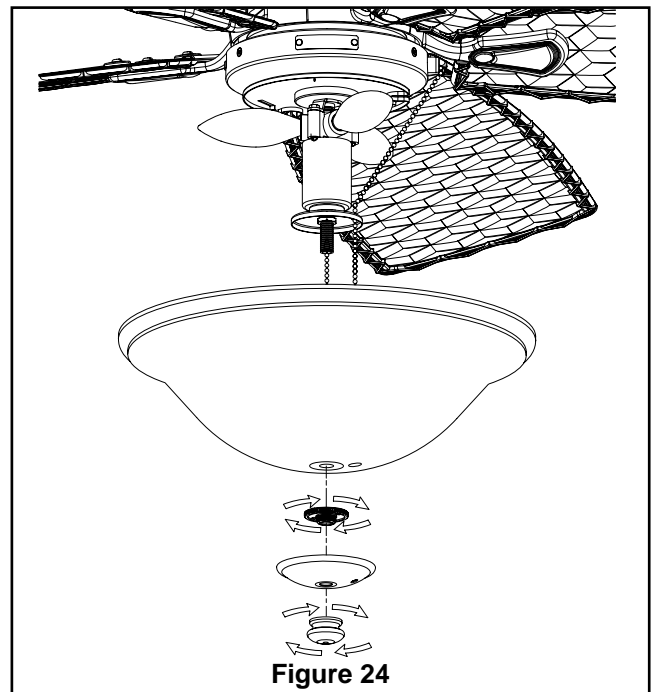

Figure 24
2. Secure glass bowl to light fitter using supplied nut. Next, install trim cover followed by the finial. Do not over tighten. (Figure 24)